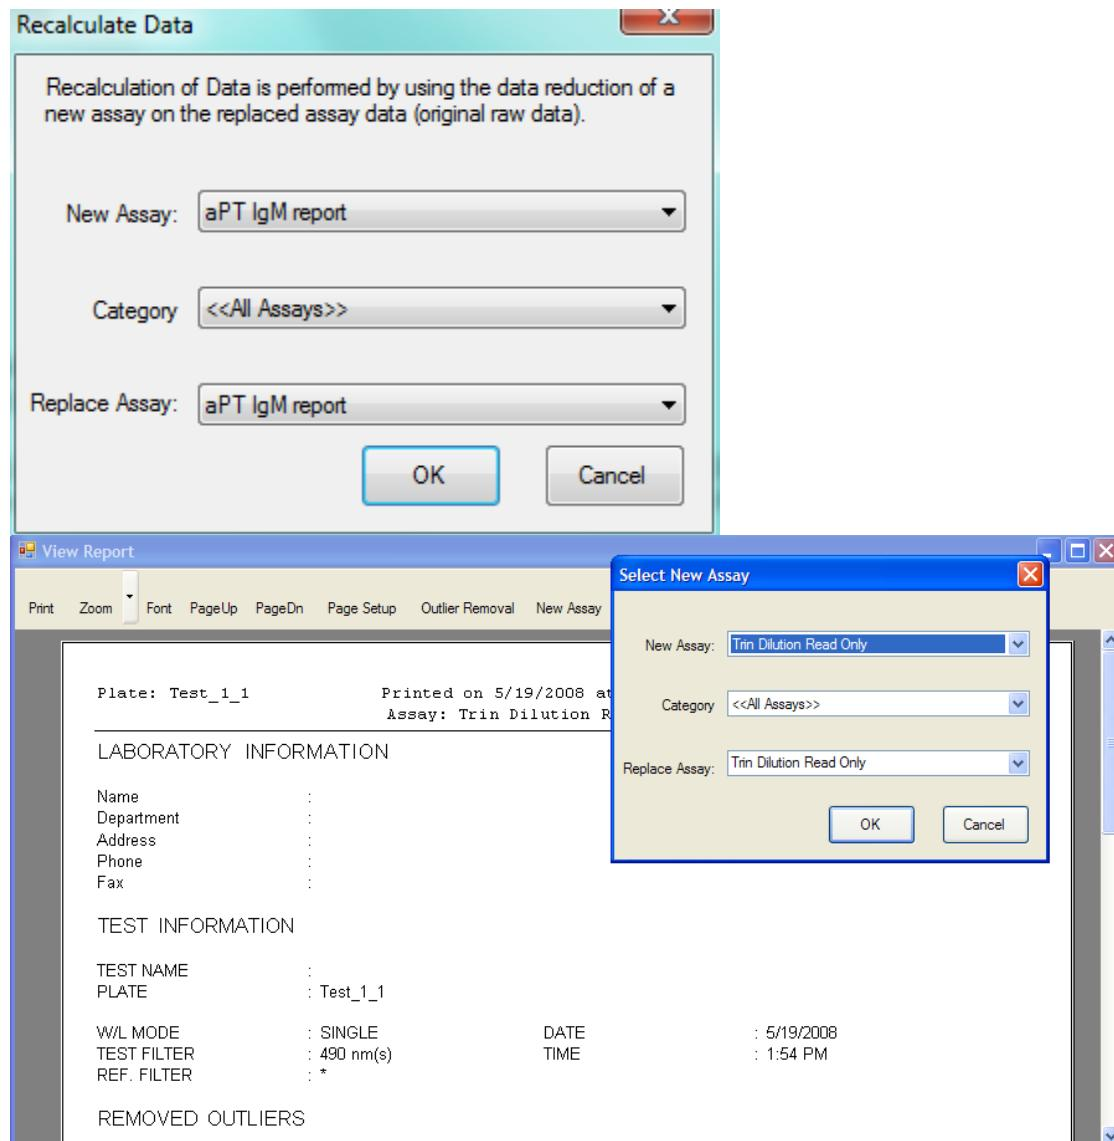

Figure 6-18: Selecting New Assay for Data Reduction
- Select the desired assay with the new data reduction from the drop down list (Figure 6-18).